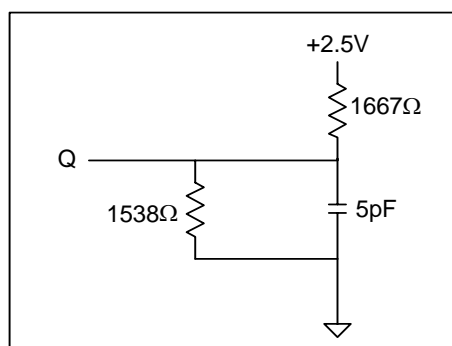

Figure 2
3. The load used for V_{OH}, V_{OL} testing is shown in Figure 2. AC load current is higher than the shown DC values.
2. Output loading is specified with C1=5pF as in Figure 2.